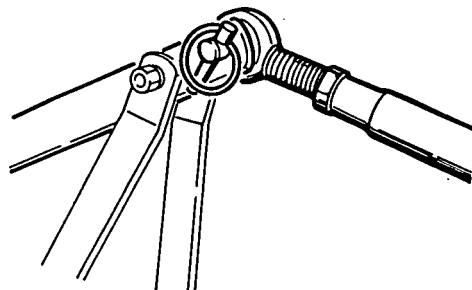

Fig. 17
- 3 Install the other end of the hitch top link to the tiller and secure with clip as shown Fig. 17.
- 5 Adjust the hitch top link to make tiller parallel with the ground (front to rear). Increasing the length of the top link will cause the rear of the tiller to drop, shortening the link will cause the rear of the tiller to raise. Tighten the locking nut on the top link securely Fig. 17.